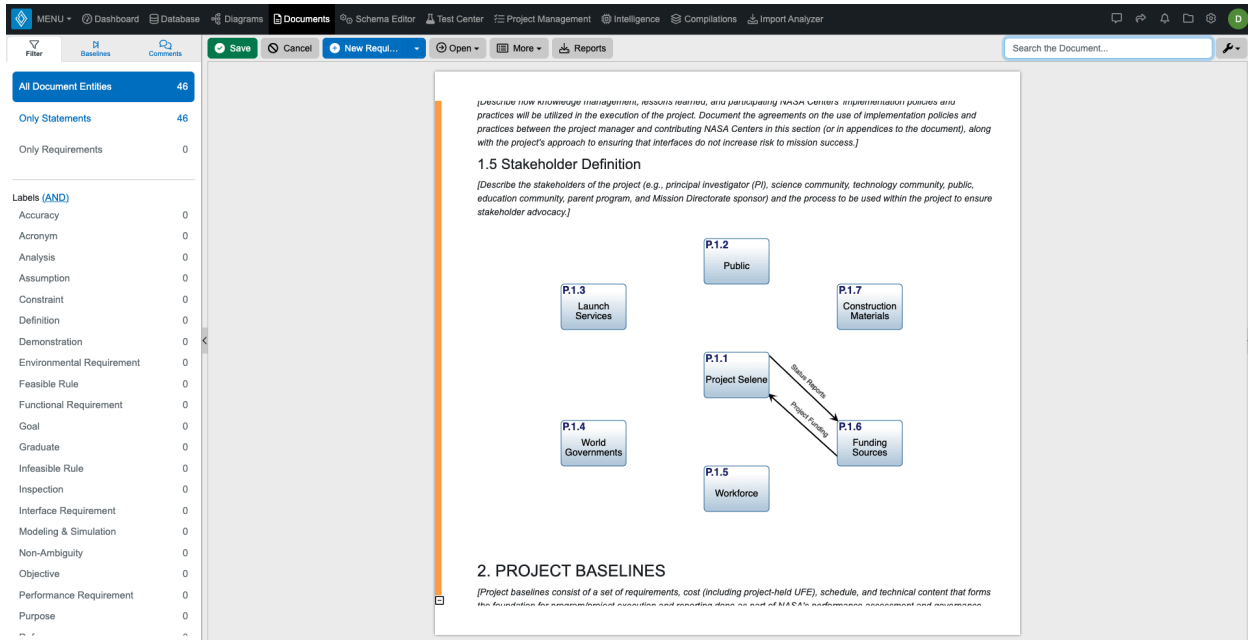

Figure 6. Adding the Context Diagram to the Program Plan
- o *Note: Your results should be similar to the image in Figure 6.*